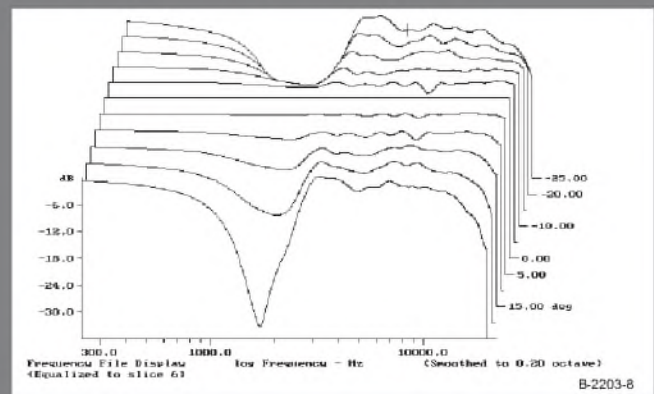

FIGURE 8: Froy vertical polar response waterfall.
*Figure 8* is the waterfall plot of vertical polar response. Responses are shown in 5° increments from 25° below (−25°) the tweeter axis to 25° above it. Off-axis responses out to ±10° track the on-axis response with little error.